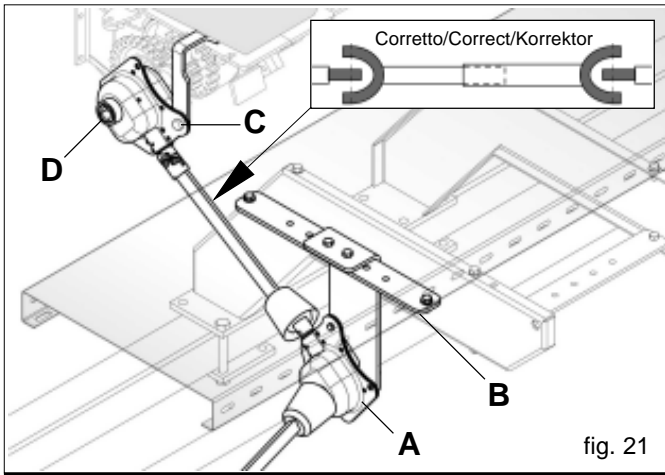

fig. 21
During the planting unit/equipment assembly operations, and if a hydraulic lifting device is installed for the furrow opener bearing frame, check that the transmission gears of the planting unit (Fig. 21) do not, and cannot, interfere with other parts of the assembly during normal working operations. If necessary move the gearbox (A Fig. 21) along its support (B).
WARNING! Do not completely tighten the screw (C Fig. 21) that holds the gearbox (D Fig. 21); oscillation is expected.
When fitting the universal joints follow the instructions given in Figure 21.